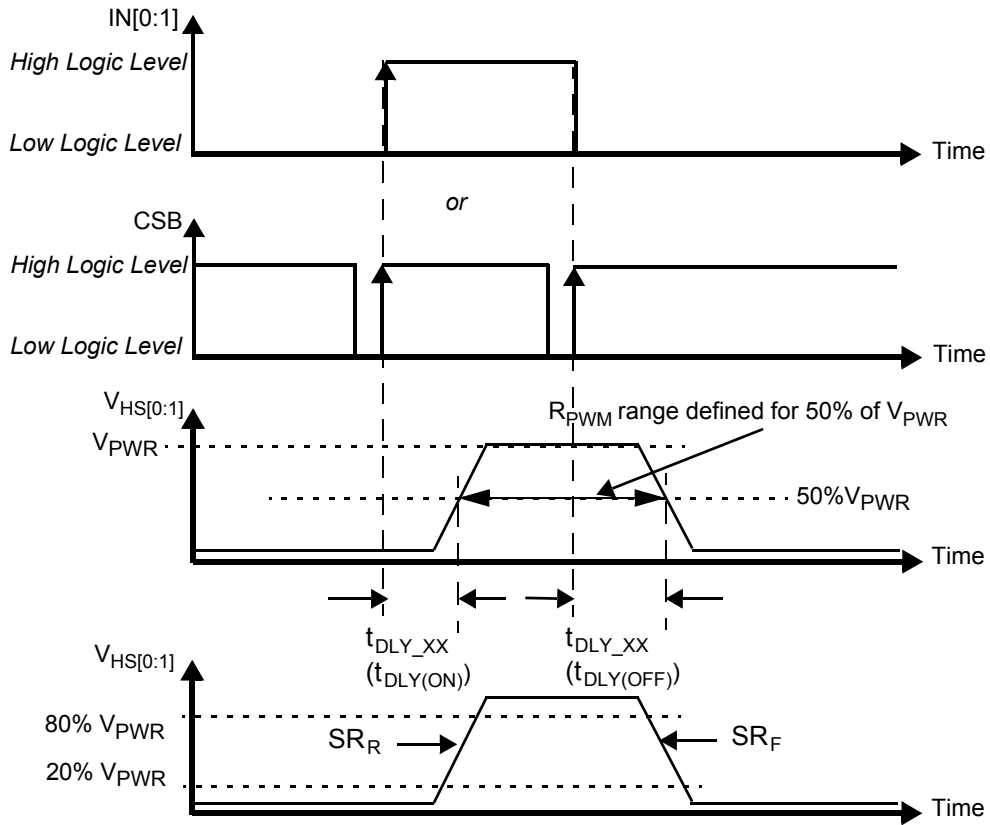
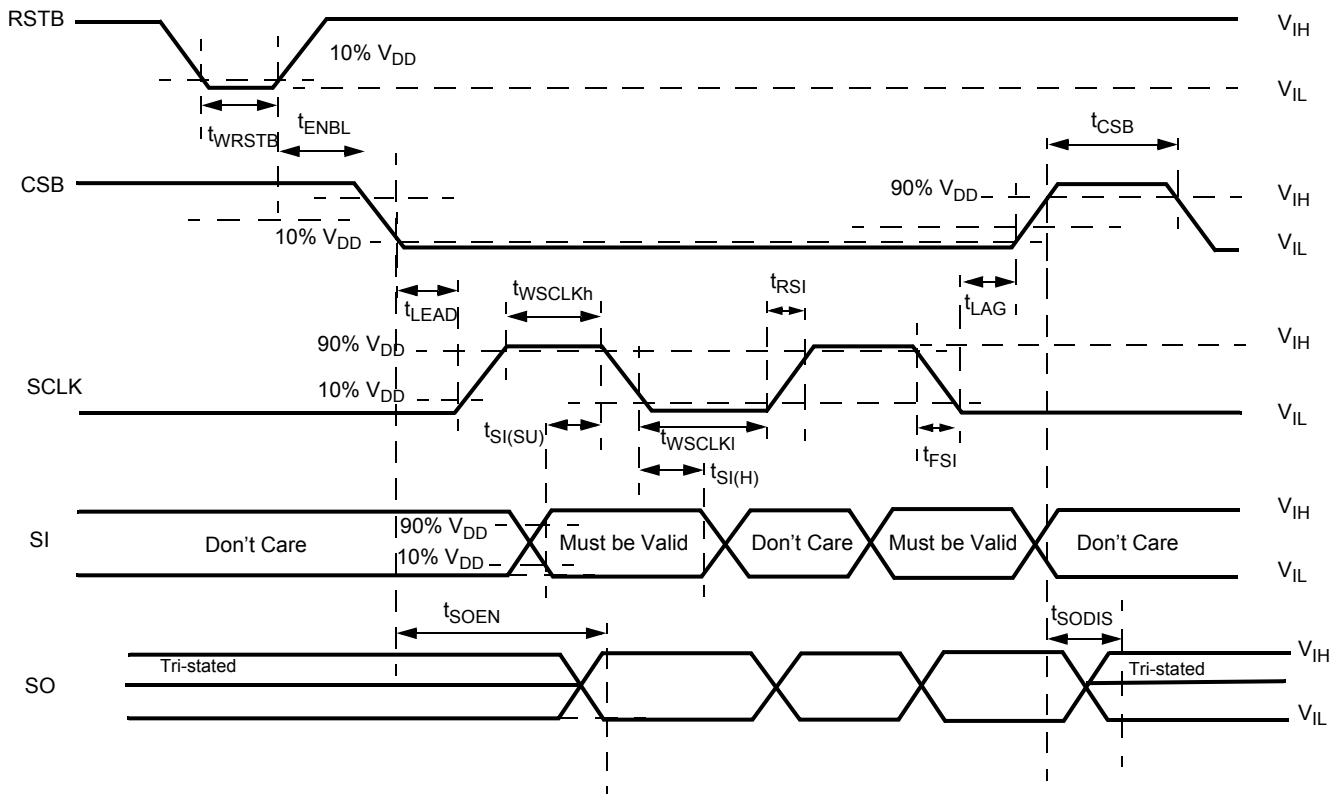
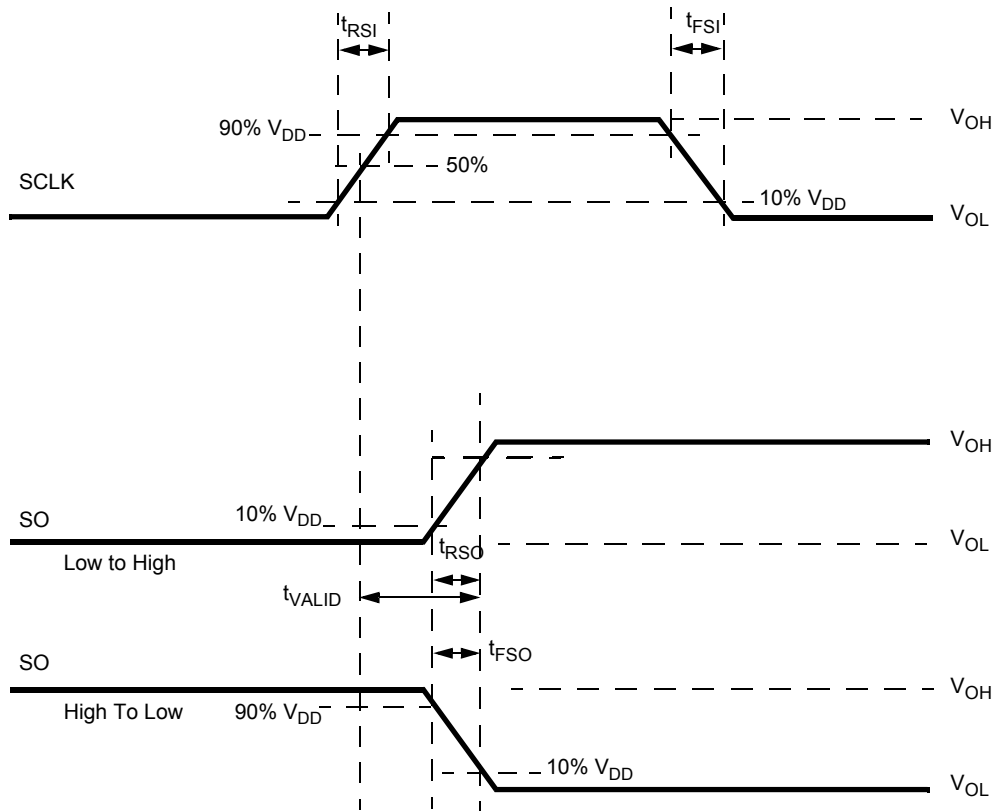

Figure 4. Output Voltage Slew Rate and Delay
Figure 7. Timing Requirements During SPI Communication
Figure 8. Timing Diagram for Serial Output (SO) Data Communication
27. Rising and Falling edge slew rates specified for a 20% to 80% voltage variation on a 10.0 Ω resistive load (see Figure 4).
29. Time required to switch off the channel after detection of over-temperature (OT), over-current (OC), SC or UV error (time measured between start of the negative edge on the FSB pin and the falling edge on the output voltage until $V(\text{HS}[0:1]) = 50\%$ of V_{PWR}).
30. Settling time ($= t_{CSNSVAL_XX}$), SYNC output signal delay ($= t_{SYNCVAL_XX}$) and Read-out delay ($= t_{SYNREAD_XX}$) are defined for a stepped load current ($100\text{ mA} < I(\text{LOAD}) < I(\text{OCLX A FOR CSNS_RATIO_S} = 1, \text{ AND } 300\text{ mA} < I(\text{LOAD}) < I(\text{OCLX A}_0 \text{ FOR CSNS_RATIO_S} = 0)$). (see Figure 8 and Output Current Monitoring \(CSNS\)).
edge of CSB. The SO output driver is enabled when CSB is logic [0]. CSB should transition from a logic [1] to a logic [0] state only when SCLK is at logic [0] (Figure 7 and Figure 8). CSB is internally pulled up to V_{DD} through I_{UP} .
Serial input (SI) data bits are shifted in at this pin. SI data is read on the falling edge of SCLK. 16-bit data packages are required on the SI pin (see Figure 7), starting with bit D15 (MSB) and ending with D0 (LSB). All the internal device registers are addressed and controlled by a 4-bit address (D9-D12) described in Table 10. Register addresses and function attribution are described in Table 11. The SI pin is internally connected to a pull-down current source, I_{DWN} .